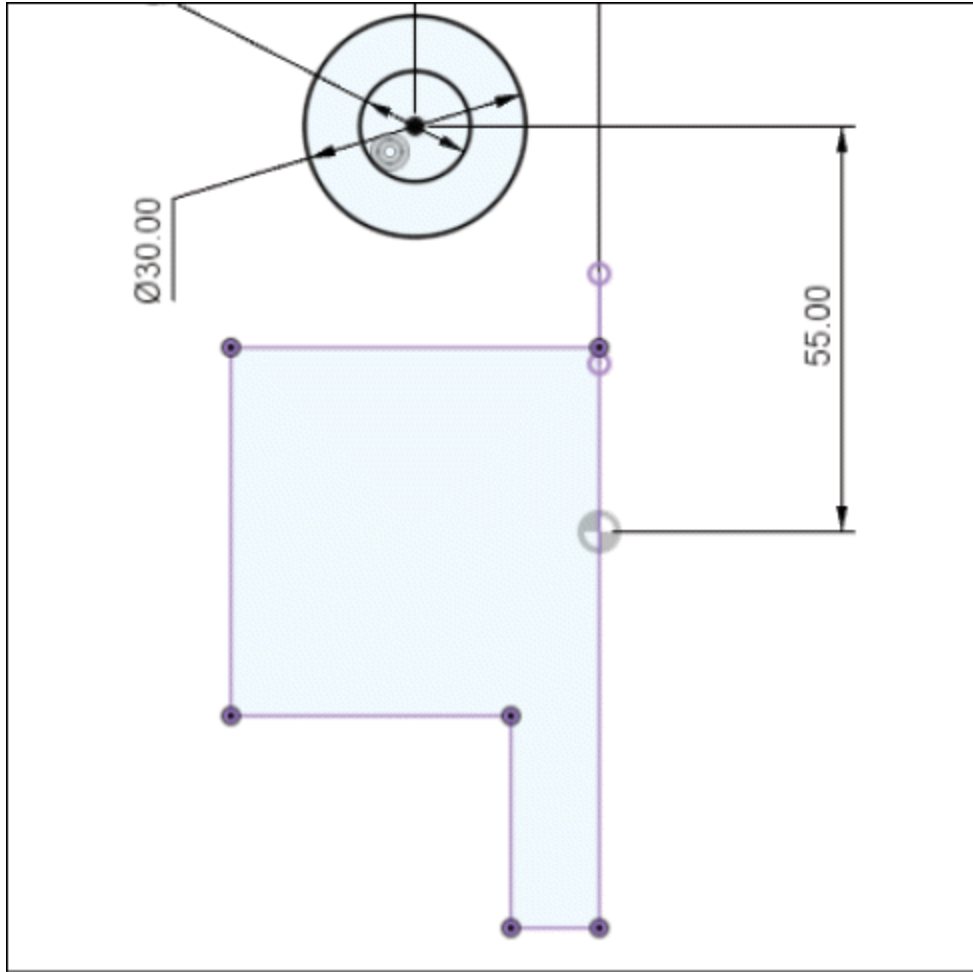

Figure-51. Intersected geometry
- Hide the body by clicking on eye icon before **Body1** in the **Bodies** node of **BROWSER**. The intersected geometry will be displayed; refer to Figure-51.